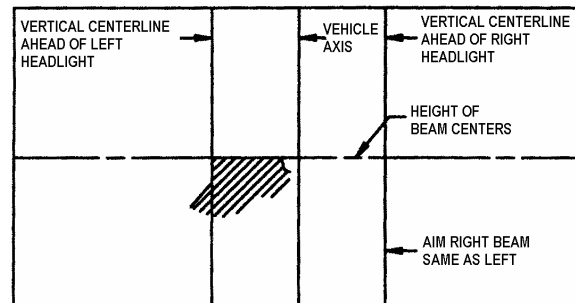

FIGURE 33: HIGH-INTENSITY ZONE (SHADED AREA) OF A PROPERLY AIMED LOWER BEAM ON THE AIMING SCREEN 7.6 M (25FT) IN FRONT OF VEHICLE
- Low beam headlights are aimed so that the top edge (the cutoff) of the high-intensity zone is at the vertical location as per Table 1 and the left edge of the high-intensity zone is at the vertical centerline of the headlight (Fig. 33).